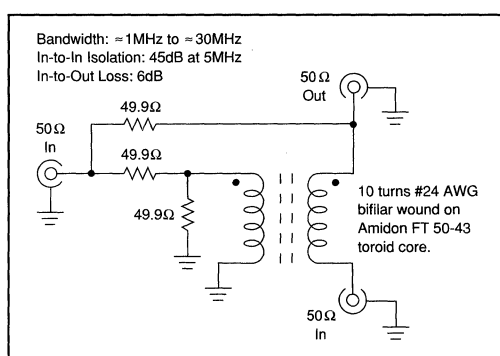

FIGURE 5. Passive Signal Combiner.
- Two-tone testing will require isolation between test signal generators to prevent IMD generation in the test generator output circuits. A passive (hybrid transformer) signal combiner can also be used (Figure 5) over a range of about 0.1MHz to 30MHz . This combiner's port-to-port isolation will be $\approx 45\text{dB}$ between signal generators and its input-output insertion loss will be $\approx 6\text{dB}$. Distortion will be better than -85dBC .